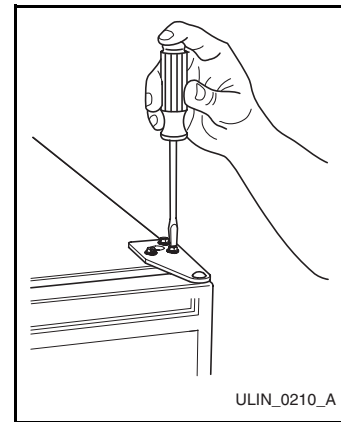

Figure 19
NOTE: Model CO75 shown (**Figure 19**)
1. Loosen (do not remove) top (**Figure 19**) and bottom hinge screws.